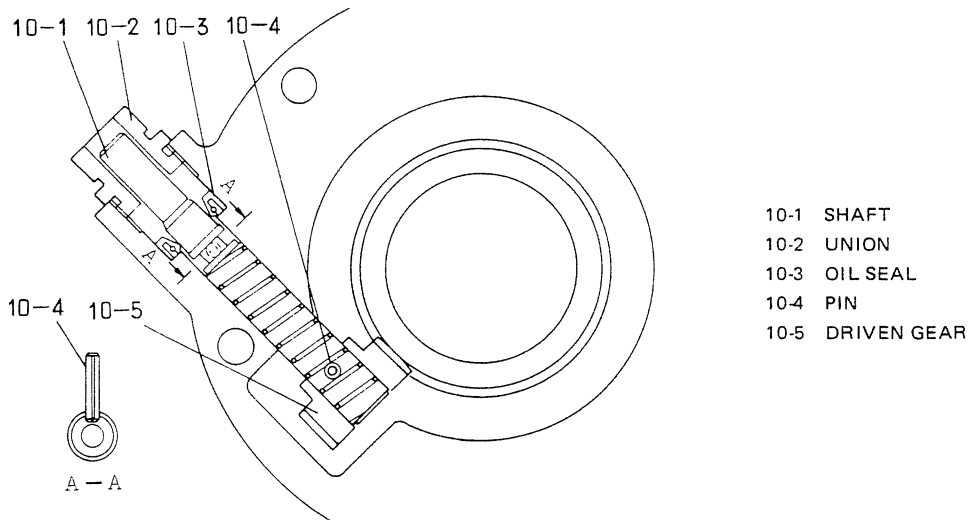

Fig. 5-1 (J) Gear (for Speedometer)
- (9) Remove thrust washer, thrust bearing, and spacer (14) that order.
- (10) Straighten locking strips (16) and remove the 10 capscrews (15) temperature pump (18) from PTO drive gear (20). Remove pump (18). (Fig. 5-1.)
- (11) Remove oil seal (19) from the converter housing.
- (12) Screw two removed capscrews (15) into the two tapped holes of PTO drive gear apart 180° to remove gear (20) with bearing (22). The inner bearing race remains on the shaft.